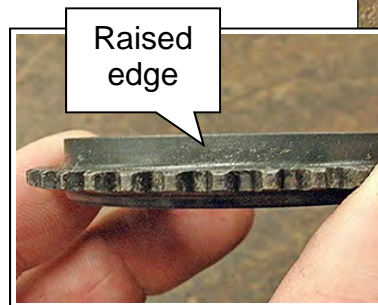

Figure 141
- Make sure the raised edge (wider edge) on the drive sprocket is facing up (Figure 141).